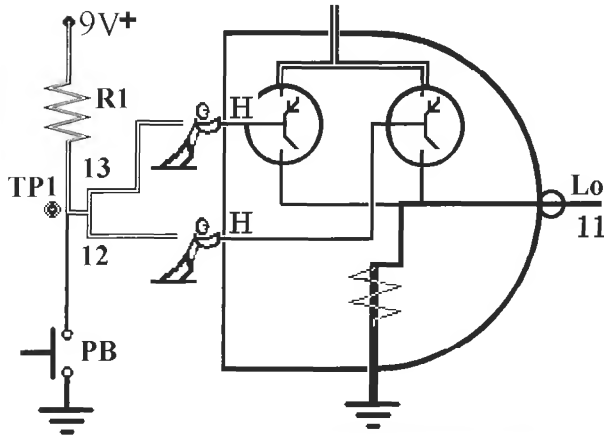

Figure L17-2
- Figure L17-2 is showing that the voltage through R1 is putting pressure on pins 12 and 13, the connected pair of inputs to one of the 4011 NAND gates. The input voltage is seen as a high.